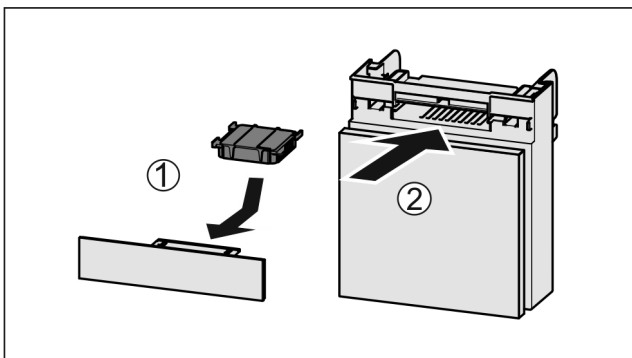

Fig. 208
- ▶ Insert the carbon filter as shown in the diagram Fig. 208 (1).
- ▶ Push the compartment in Fig. 208 (2).